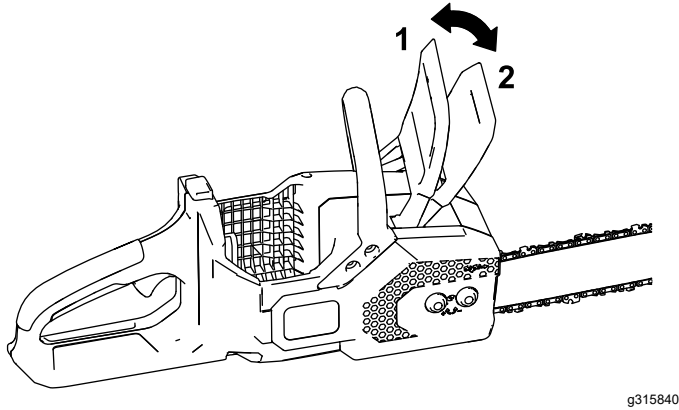

Figure 27
2. Engage the chain brake by moving the chain brake forward to the STOP position (Figure 27).
4. Disengage the chain brake by moving the chain brake rearward to the OPERATING position (Figure 27).
4. Ensure that the chain brake is in the OPERATING position (Figure 27).